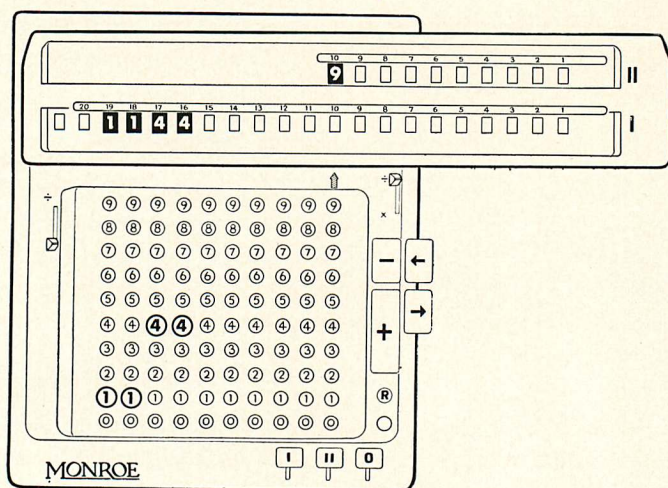

Figure 23
*Step 1*—Move carriage to extreme right ("8" position with Model MA 7-173-W, "10" position with Model MA 7-213-W). Since the reciprocal of 144 is 1 divided by 144, prefix a 1 to 144 (1144) and set the 1144 on the extreme left of the keyboard. Depress plus bar once. Clear nothing. The machine now appears as in Figure 23.